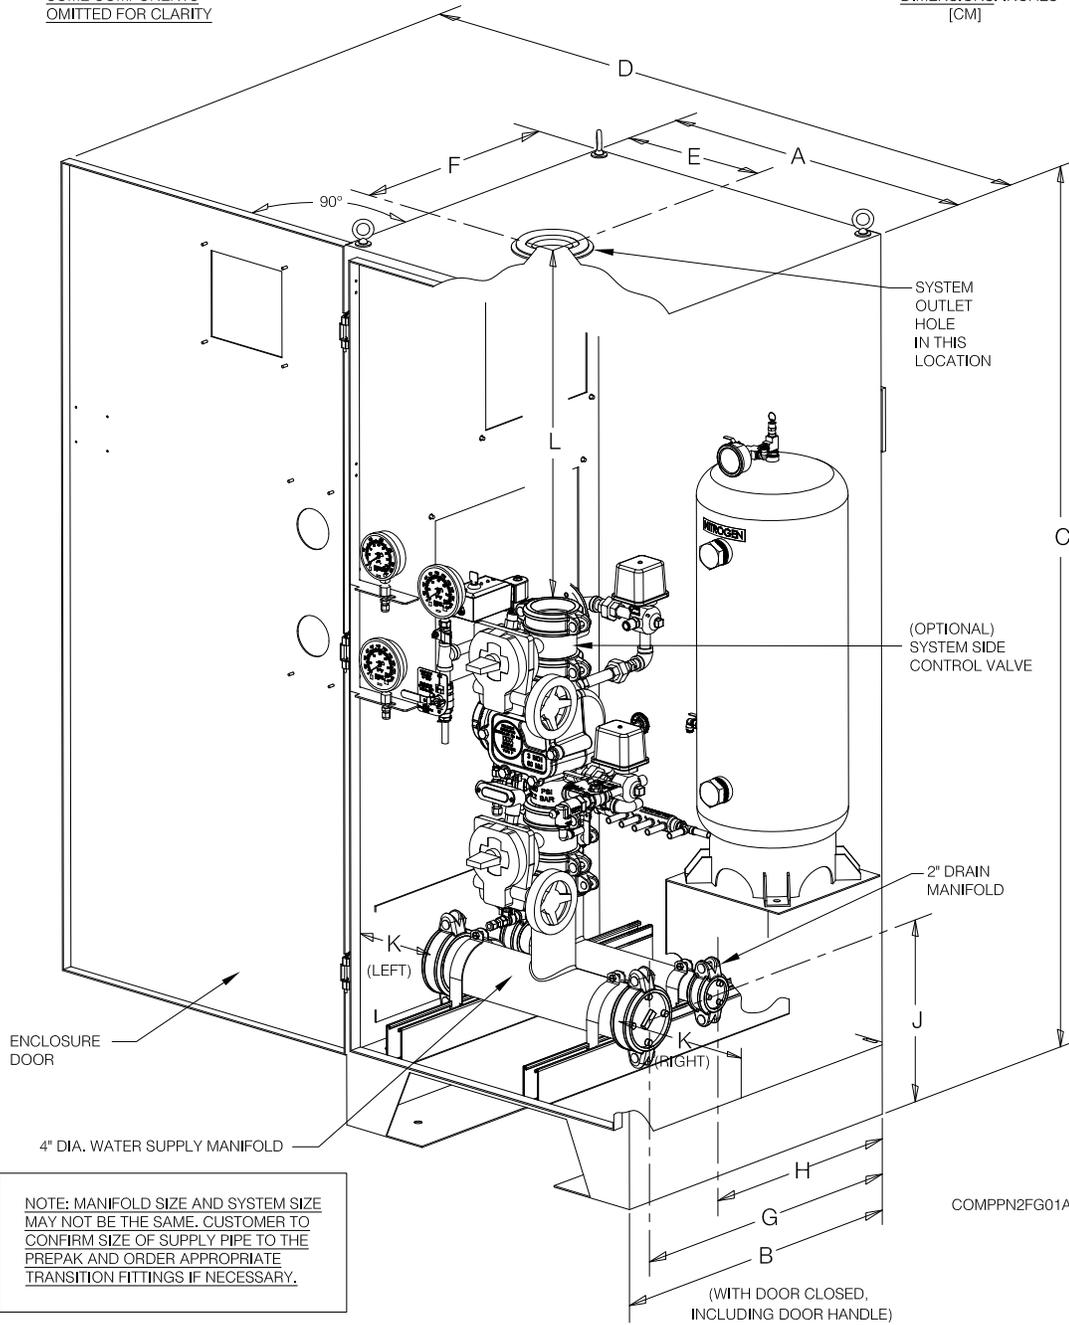

Fig. 1
The Reliable Model DDX-LP PrePak with integrated nitrogen generation (Sizes 2" (50mm), 2½" (65 mm), 3" (80 mm) and 4" (100 mm)) is a completely self-contained, supervised dry pipe system that can be readily installed within a floor space of less than 7 ft2 (0.65 m2). Refer to Fig. 1 for cabinet dimensions. Installation of the DDX-LP PrePak requires just three piping connections: the water supply, the sprinkler system and the drain. Reference locations of these piping connections are shown in Fig. 1. Independent electrical supplies are required for the optional system air compressor (115 or 220 VAC) and the nitrogen generator (115 VAC).
4. Refer to Figure 1 for dimensions.